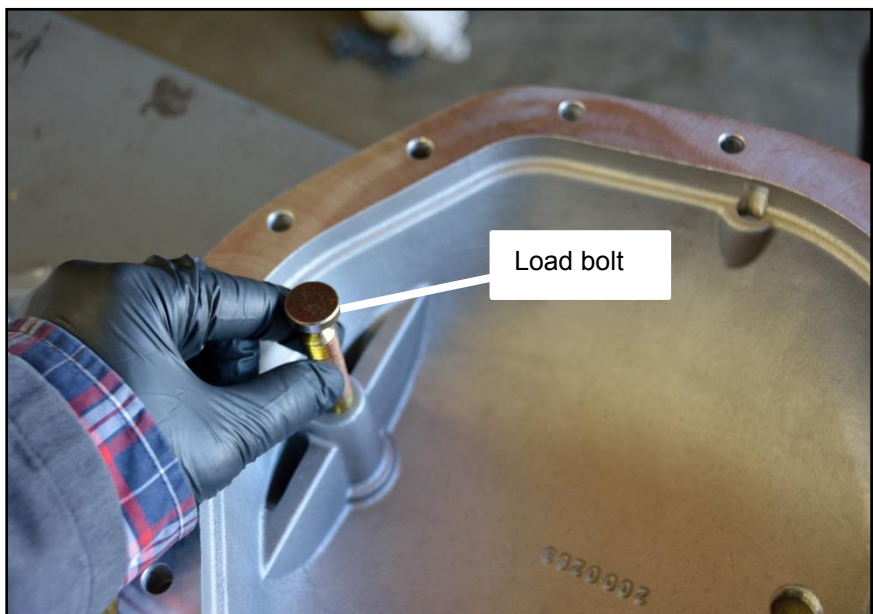

Figure 3
STEP 10. Install the supplied load bolts in each boss from the inside of the **B&M Cast Aluminum Rear End Cover** as shown until they bottom out (See Figure 3 & 4).